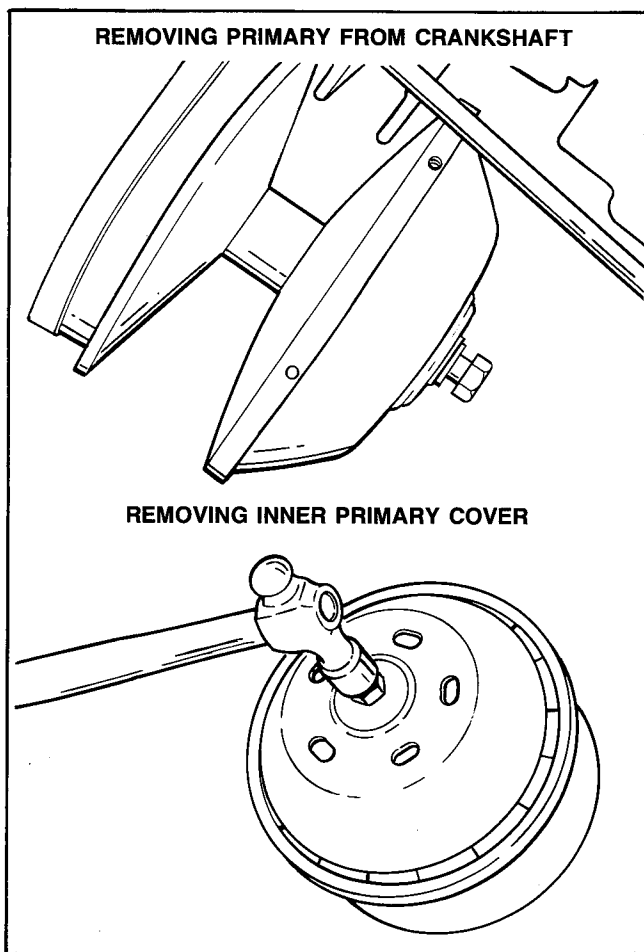

Figure 78 - Removing Primary Drive Floating Flange and Drive Cover
- g. See Figure 78. Remove complete primary assembly (using Tool Kit No. 209422C) by inserting pin and bolt into primary shaft and tighten bolt. As the bolt is tightened, the complete primary assembly will come free of the crankshaft. While supporting the primary in your hand, back bolt out of primary shaft and tap the bolt with a hammer to remove the triner cover.